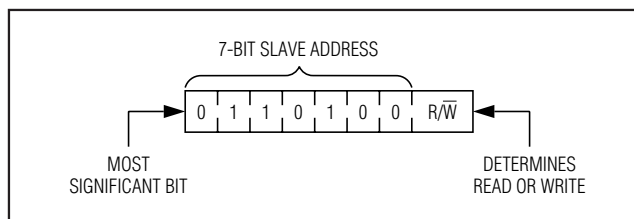

Figure 5. DS2741 Slave Address Byte
**Slave Address Byte:** Each slave on the I2C bus responds to a slave addressing byte sent immediately following a START condition. The slave address byte (Figure 5) contains the slave address in the most significant 7 bits and the  $R/\bar{W}$  bit in the least significant bit.